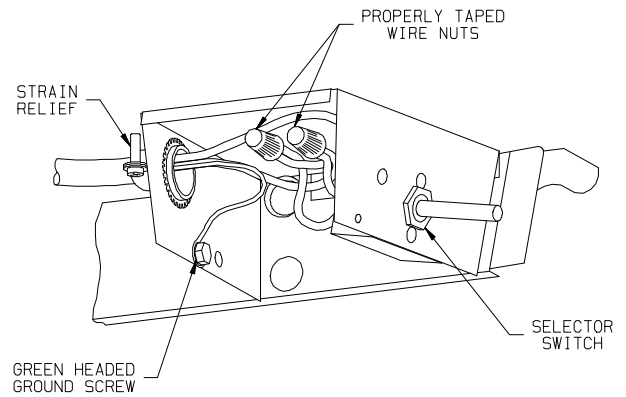

FIGURE 9
- D. Connect the 115 VAC power line to the black and white pigtail wires found in the control box using two wire nuts. **IMPORTANT** - Connect black wire to black wire and white wire to white wire. Install the 115 volt ground wire (green or bare copper) to the green headed screw in the selector switch control box. Using a U.L. approved electricians tape, secure the wire nuts to the wires in a workmanlike manner (See Figure 9).